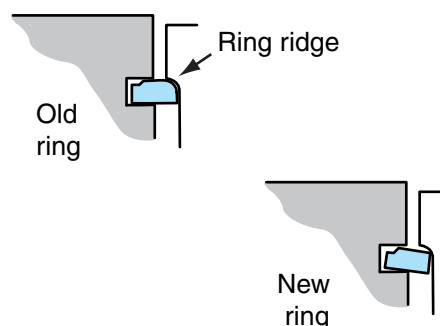
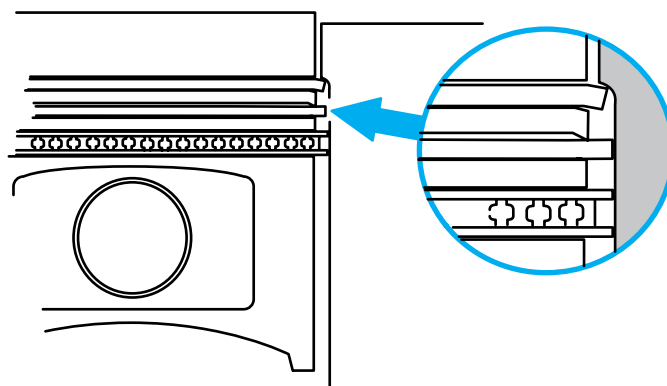

FIGURE 3.44 Failure to remove the ring ridge. A new square ring will strike the old rounded ridge.
FIGURE 3.45 The ring land above the second ring can be forced down.
- A cylinder ring ridge that is not removed when new rings are installed can cause a clicking sound when the square edge of the new ring hits against the rounded edge of the ring ridge (**Figure 3.44**). This can also force a ring land down on the second ring (**Figure 3.45**). The result is a stuck second compression ring or a broken ring or ring land.